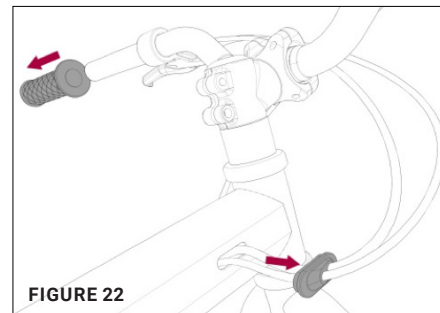

FIGURE 22
4. Remove the dust plug and left grip. [Figure 22]